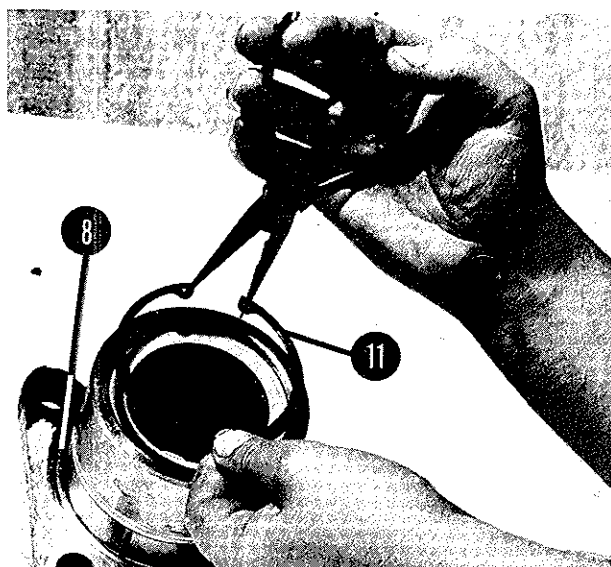

Fig. 4
- (1) Slide the gland assembly complete off the piston rod.
- (2) Separate the components of the gland assembly, noting the order of assembly. Discard the gland ring, the wiper ring and the gland seal.
- (3) Remove the circlip (11) from the gland assembly (8), (fig. 4).